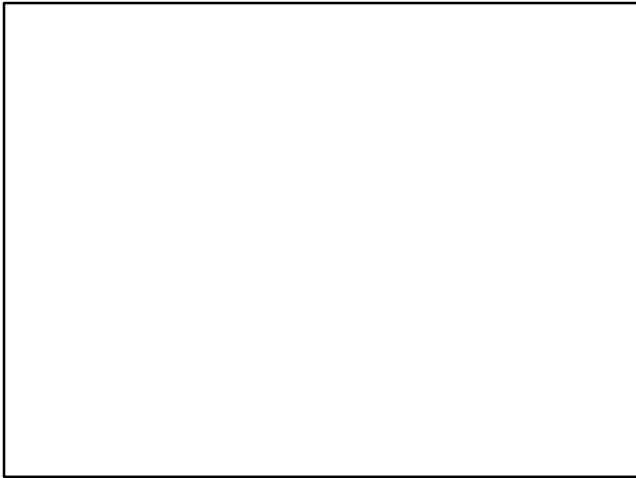

Figure 12
8. Assemble the mounting nuts for the reel drive motor to each cutting unit (Fig. 12). Leave approximately 1/2" of threads exposed on each mounting stud.